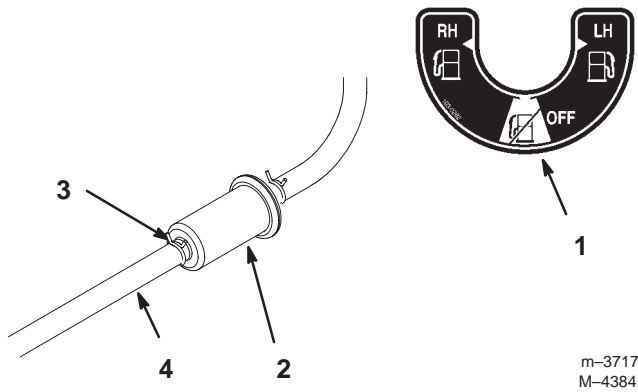

Figure 45
6. Install a new filter and move the hose clamps close to the filter (Fig. 45).
2. Close the fuel shut-off valve (Fig. 45).
3. Loosen the hose clamp at the fuel filter and slide it up the fuel line away from the fuel filter (Fig. 45).
4. Pull the fuel line off of the fuel filter (Fig. 45).
6. Install the fuel line onto the fuel filter. Slide the hose clamp close to the fuel filter to secure the fuel line (Fig. 45).